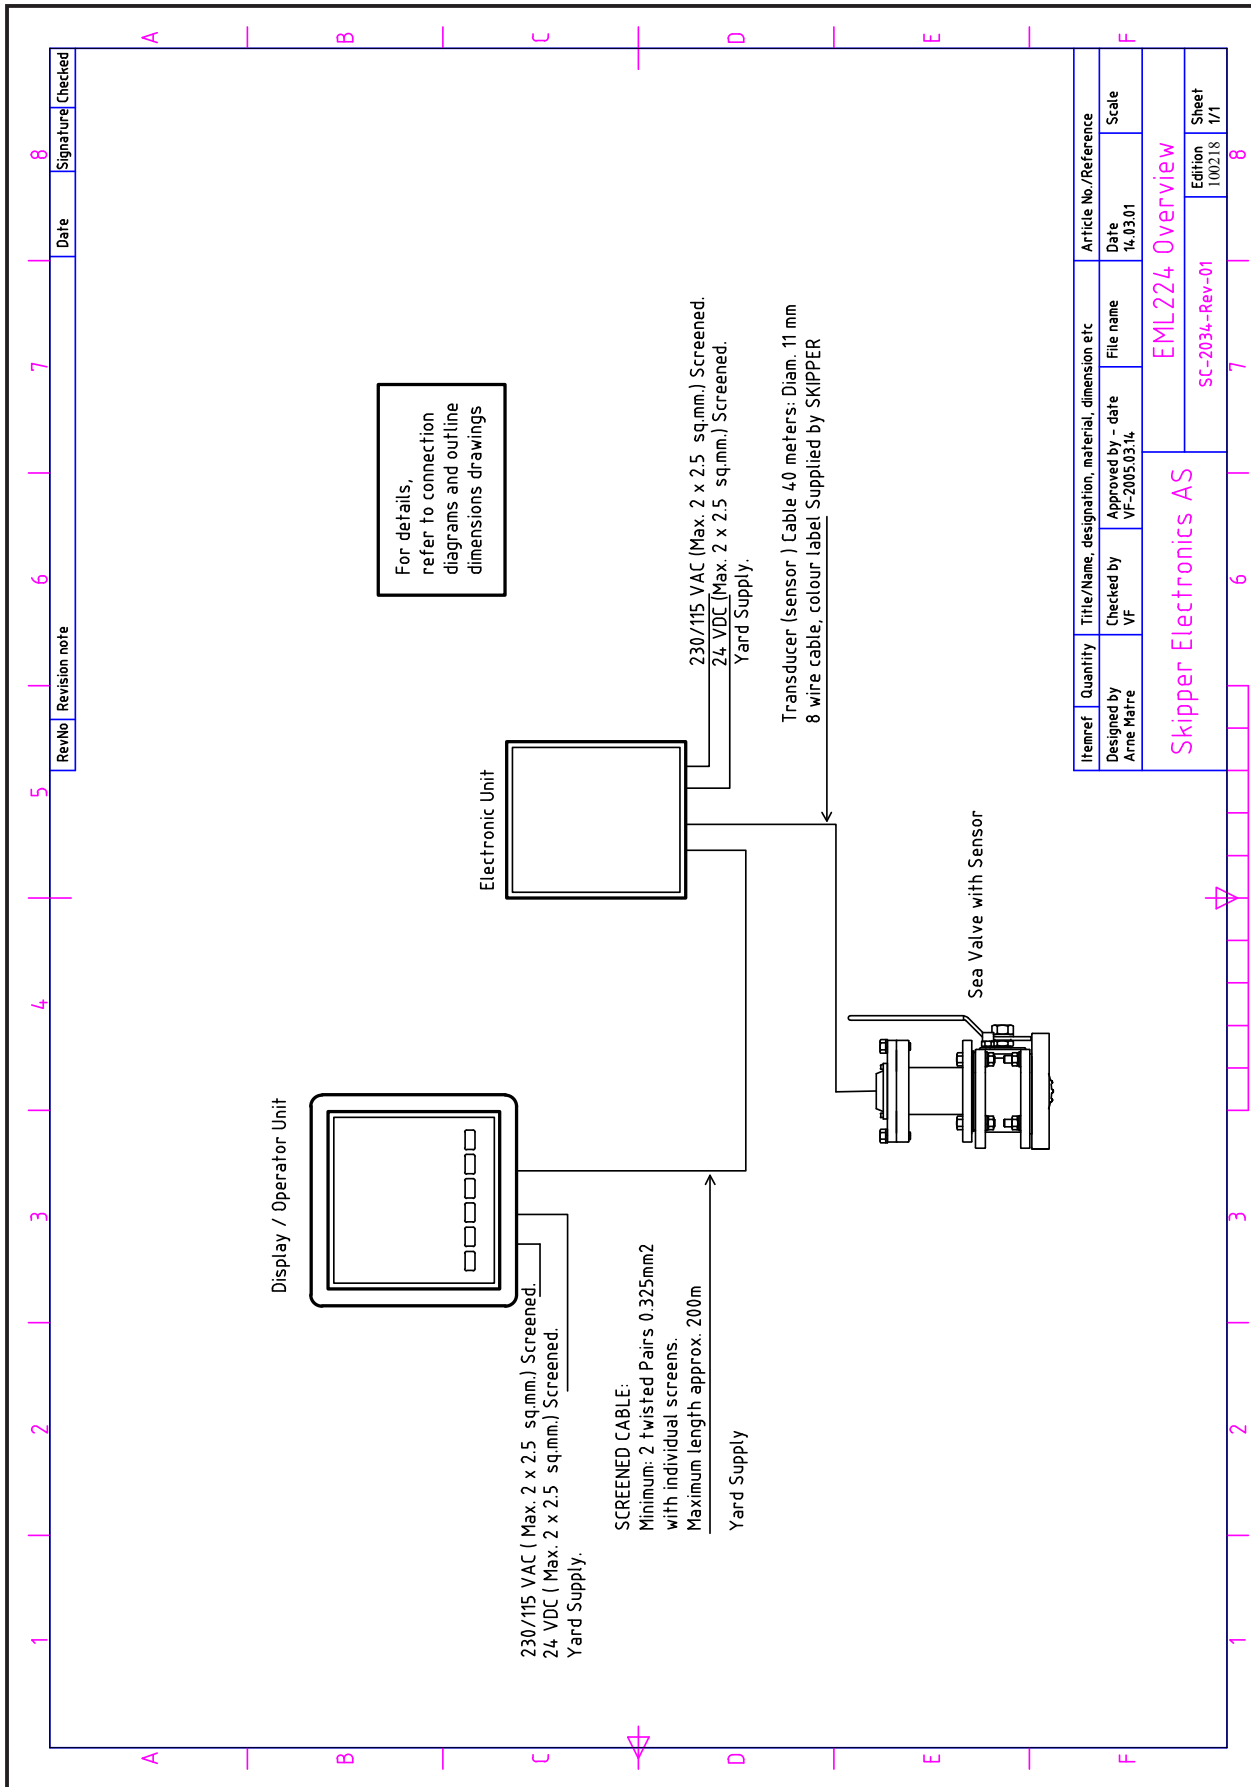

Fig. 11.1. EML224 System overview
- Fig. 11.1 EML224 System overview